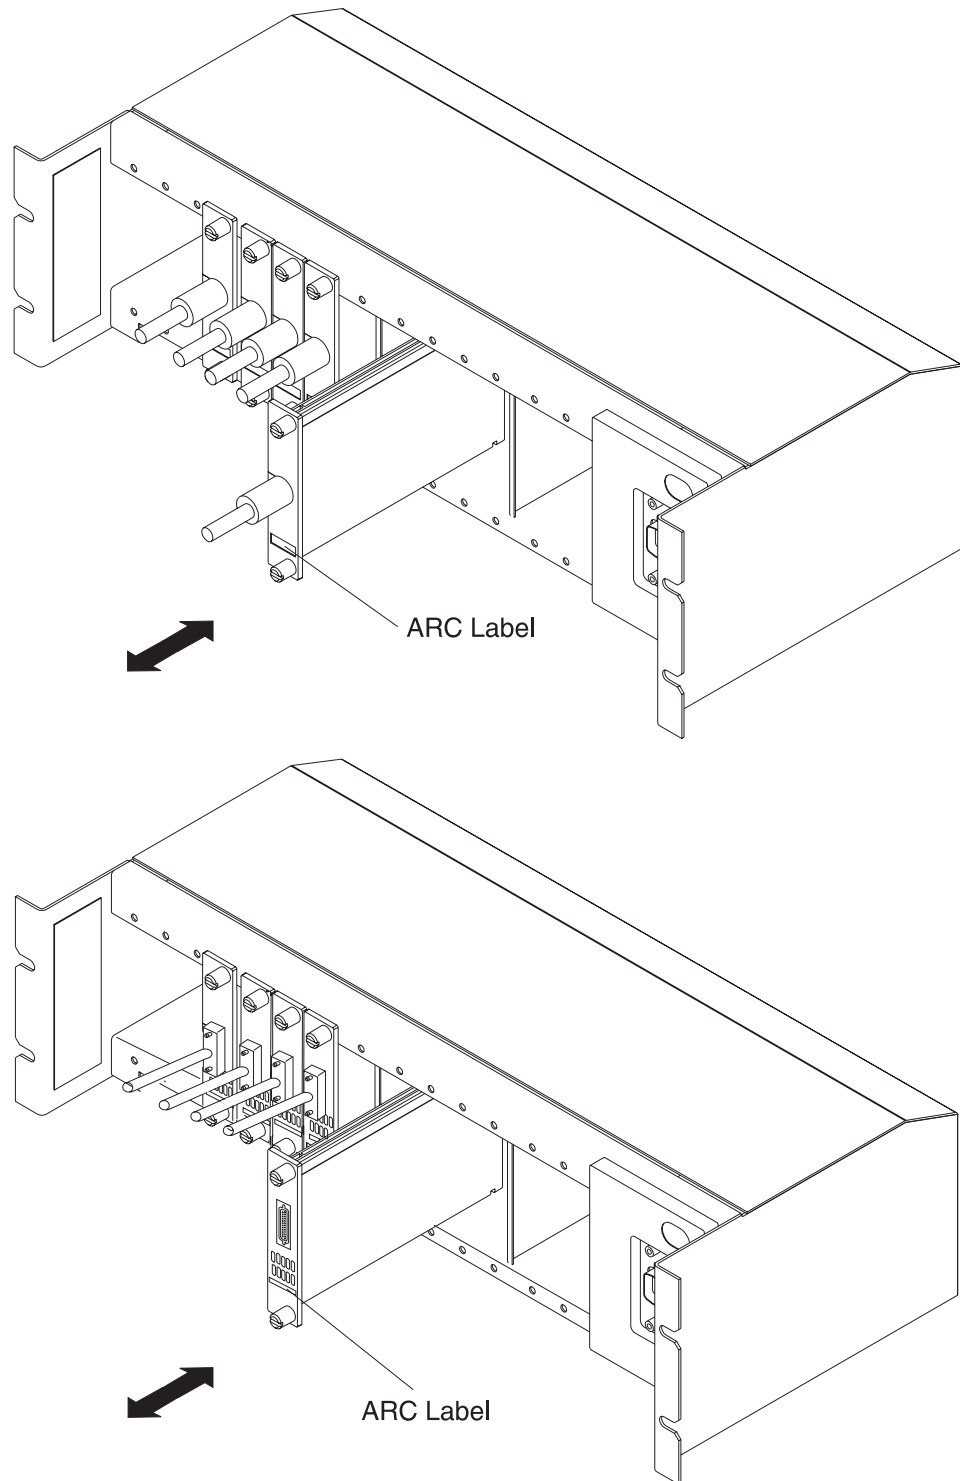

Figure C-13. ARC Assembly A (top) and ARC Assembly B (bottom) in an LCB
Step 7 Insert the ARC, pushing it until the front ARC touches the LCB, then tighten the two retaining screws (see Figure C-13 on page C-18).